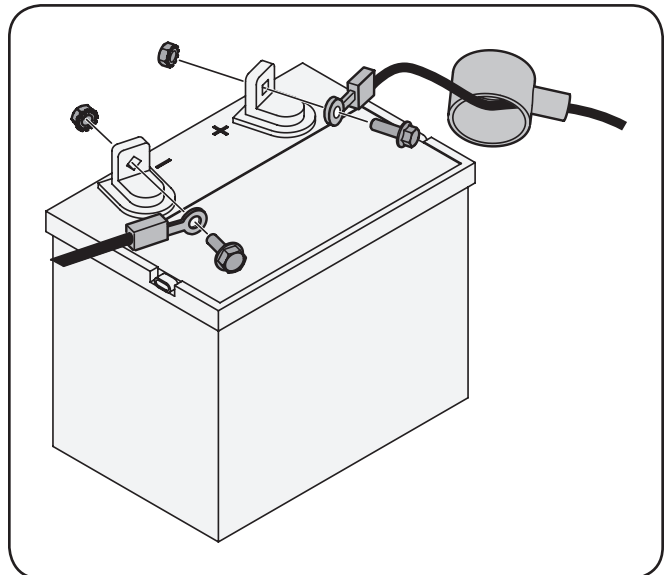

Figure 4-4
1. Remove the plastic cover, if present, from the positive battery terminal and attach the red cable to the positive battery terminal (+) with the bolt and hex nut. See Figure 4-4.
2. Remove the plastic cover, if present, from the negative battery terminal and attach the black cable to the negative battery terminal (-) with the bolt and hex nut. See Figure 4-4.